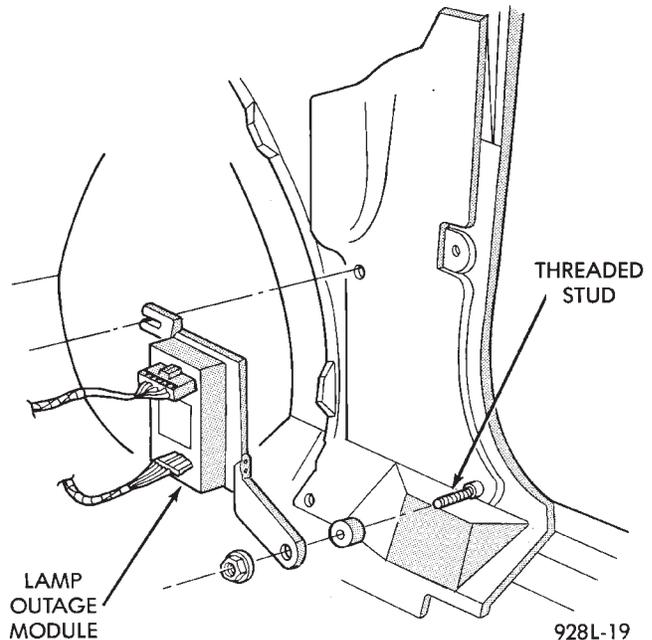

Fig. 1 Lamp Outage Module—AA-Body
REMOVAL (FIG. 1)
- (1) Remove battery negative cable.
- (2) Disconnect the wire connectors from the lamp outage module.
- (3) Remove screws or clip holding lamp outage module to instrument panel above glove compartment (Fig. 1, 2, or 3).
- (4) Separate lamp outage module from vehicle.